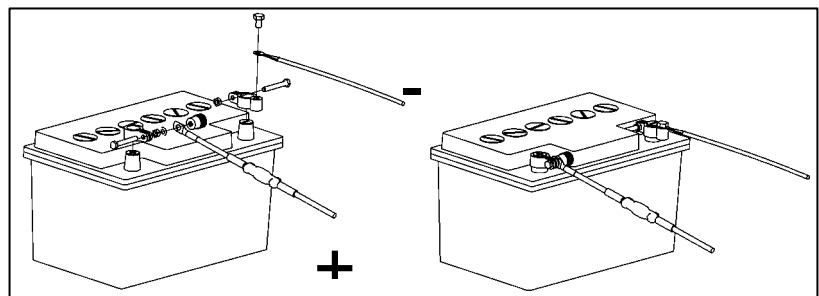

Fig. 47
- Route the “power unit cable,” positive cable, and negative cable (25 mm²) for the power supply to the terminals provided for the battery and connect (see example in Fig. 47).